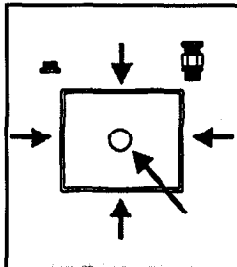

Fig. 1: Cable Gland Positions
- A single gang metal wall box (min. depth 45mm), with knockouts suitably located, and integral earth stud (Refer Fig. 1 for knockout positions).
If using flexible cable, suitable glands incorporating cable clamps must be fitted to the knockouts in the Controller Box. (Refer to Fig. 1).
- 3 Make cable entry holes in the plastic or metal box by removing suitable knockouts (Refer to Fig. 1).